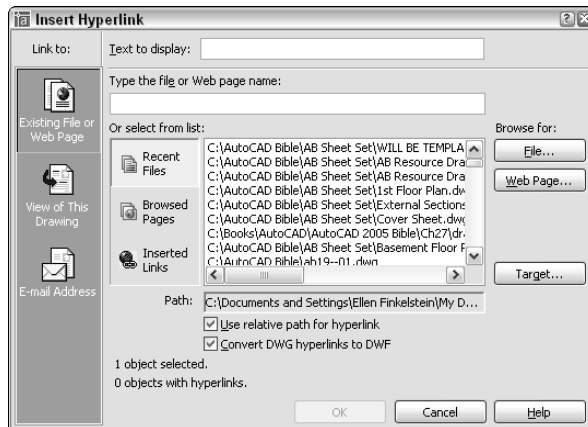

Figure 28-5: The Insert Hyperlink dialog box attaches hyperlinks to objects in your drawing.
2. Choose Insert ⇨ Hyperlink (or Ctrl+K) to open the Insert Hyperlink dialog box, shown in Figure 28-5. (If you start the command first, select objects at the prompt.)